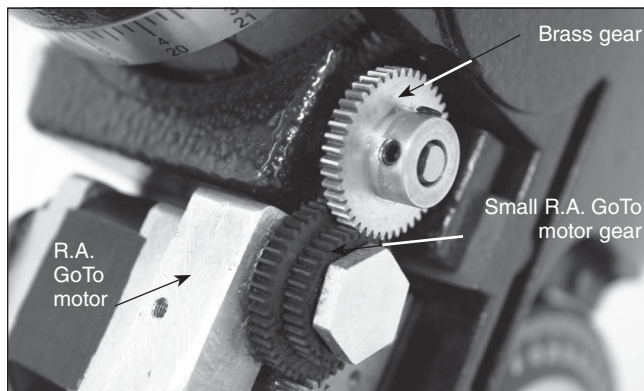

Figure 6. Correctly meshed gears (R.A.)
5. Make certain that the teeth of the **smaller** motor assembly gear correctly mesh with the teeth of the brass gear (**Figure 6**). Also, make certain the gears are not too tightly pressed together. You may have to adjust the way the gears mesh by tightening or loosening the socket-head cap screw that is used to attach the R.A. GoTo motor assembly to the mount and/or the small setscrews on the brass gear. If the gears are not meshed correctly or are too tightly pressed together, then the drive will not track properly, or at all. This attachment process is tricky, and it may take several adjustments before the gears properly mesh.